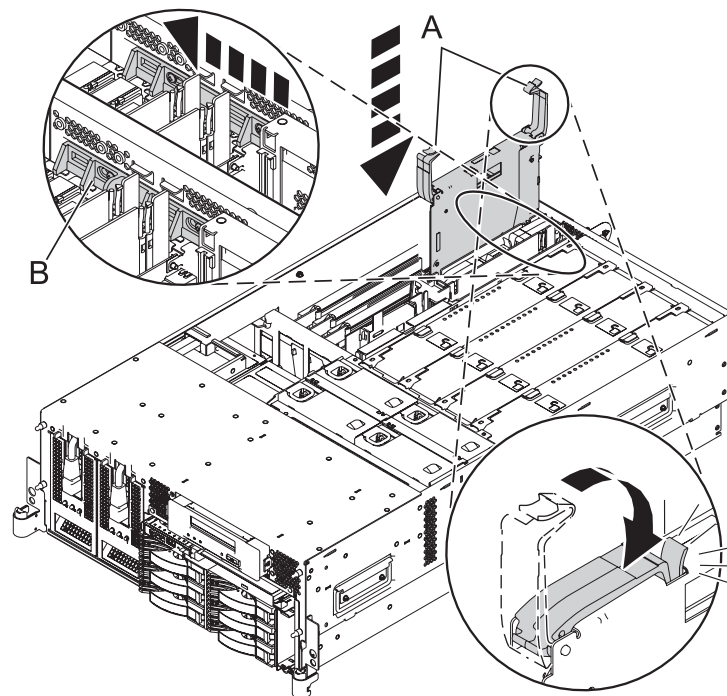
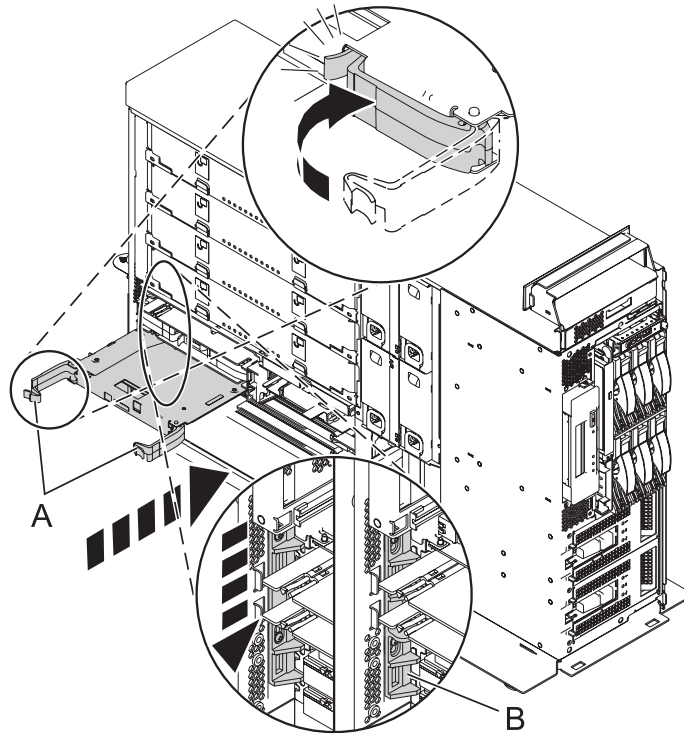

Figure 5. Adapter installation in a rack-mounted system (8204-E8A)
Figure 6. Adapter installation in a stand-alone system (8204-E8A)
Note: Some adapters may be seated with the same instructions as seen in Figure 5.
- For model 8204-E8A or 9409-M50, see Figure 5 on page 11 or Figure 6 on page 12. Push down evenly on both of the blue locking latches **(A)** at the same time until the latches snap into place, indicating that the adapter assembly is seated correctly and locked into position. Slide the retainers **(B)** into the closed position.